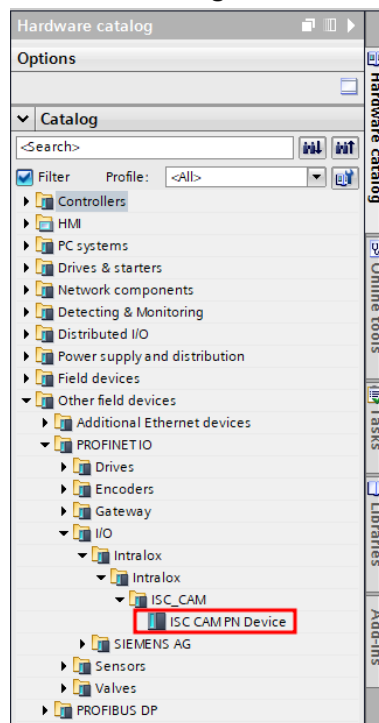

Figure 7: ISC CAM PN Device Hardware Catalog Selection
12. Navigate to the “ISC CAM PN Device,” Other field devices > PROFINET IO > I/O > Intralox > Intralox > ISC CAM > ISC CAM PN Device, Figure 7.